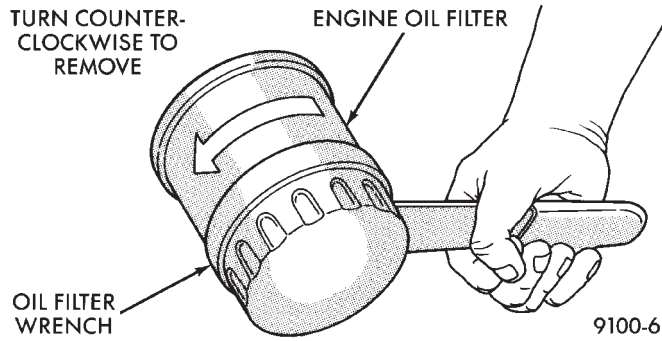
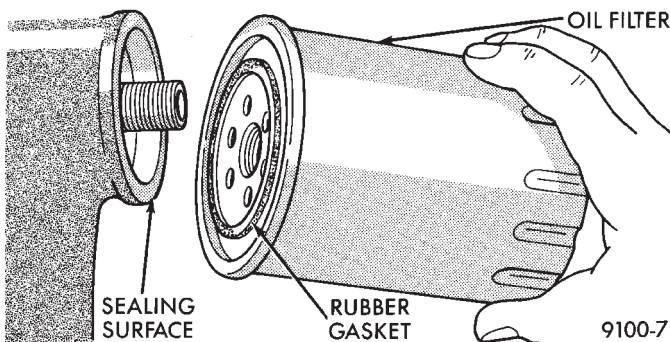

Fig. 6 Oil Filter Removal—Typical
Fig. 7 Oil Filter Sealing Surface—Typical
- (1) Position a drain pan under the oil filter.
- (2) Using a suitable oil filter wrench loosen filter.
- (3) Rotate the oil filter counterclockwise to remove it from the cylinder block oil filter boss (Fig. 6).
- (4) When filter separates from adapter nipple, tip gasket end upward to minimize oil spill. Remove filter from vehicle.
- (5) With a wiping cloth, clean the gasket sealing surface (Fig. 7) of oil and grime.
- (1) Lightly lubricate oil filter gasket with engine oil or chassis grease.
- (2) Thread filter onto adapter nipple. When gasket makes contact with sealing surface, (Fig. 7) hand tighten filter one full turn, do not over tighten.
- (3) Add oil, verify crankcase oil level and start engine. Inspect for oil leaks.